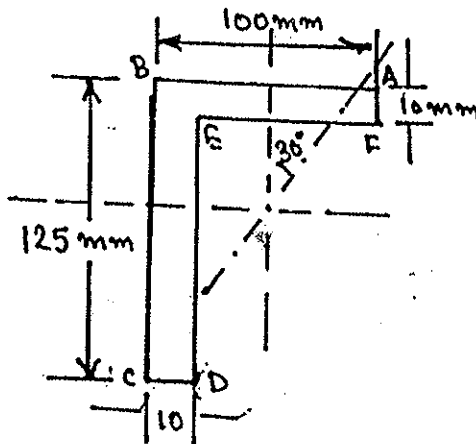

Fig. 1
11. Fig. 1 shows the section of an angle purlin. A bending moment of 3000 Nm is applied to the purlin in a plane at an angle of 30° to the vertical y axis. If the sense of the bending moment is such that its components M_x and M_y both produce tension in the positive $x y$ quadrant. Calculate the maximum direct stress in the purlin stating clearly the point at which it acts.